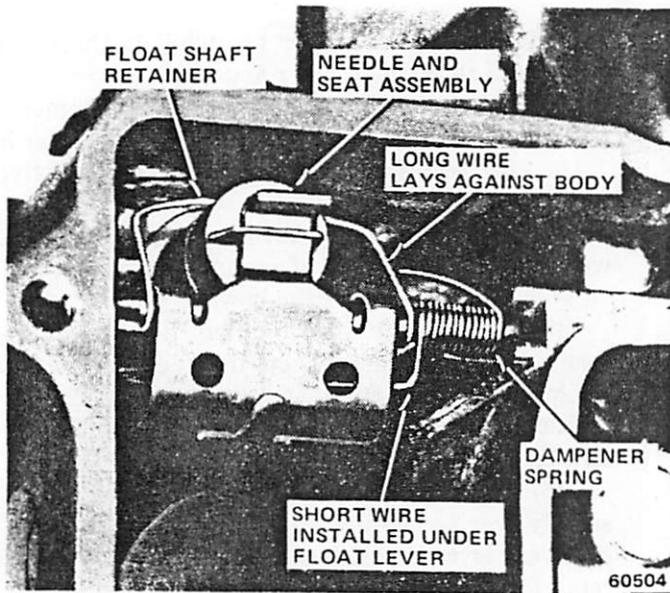

Fig. 1J-131 Damper Spring Installation
(7) Insert accelerator pump operating rod into in-board hole of accelerator pump actuating lever.
(8) Position accelerator pump operating rod retainer over hole 3 in overtravel lever.
(9) Invert main body and install power valve and replacement gasket. Tighten valve securely.
(10) Install power valve cover and replacement gasket.
(11) If removed, install idle mixture adjustment screws and springs. Turn screws in gently with fingers until they lightly seat, then back off number of turns recorded during removal for preliminary idle fuel mixture adjustment.
(12) Install main jets.
(13) Install fuel inlet seat and replacement gasket. Install fuel inlet needle assembly in fuel inlet seat. Fuel inlet needles and seats are matched assemblies. Ensure correct needle and seat are assembled together.
(14) Slide float shaft into float lever. Position float shaft retainer on float shaft.
(15) Install float damper spring with short wire under float lever (fig. 1J-131).
(16) Insert float assembly into fuel bowl and hook float lever tab under fuel inlet needle assembly. Insert float shaft into its guides at sides of fuel bowl.
(17) Press float shaft retainer into groove on fuel inlet needle seat and adjust float level. Refer to Service Adjustment Procedures.
(18) Drop accelerator pump discharge ball into passage in main body.
(19) Position replacement booster venturi gasket and booster venturi in main body.